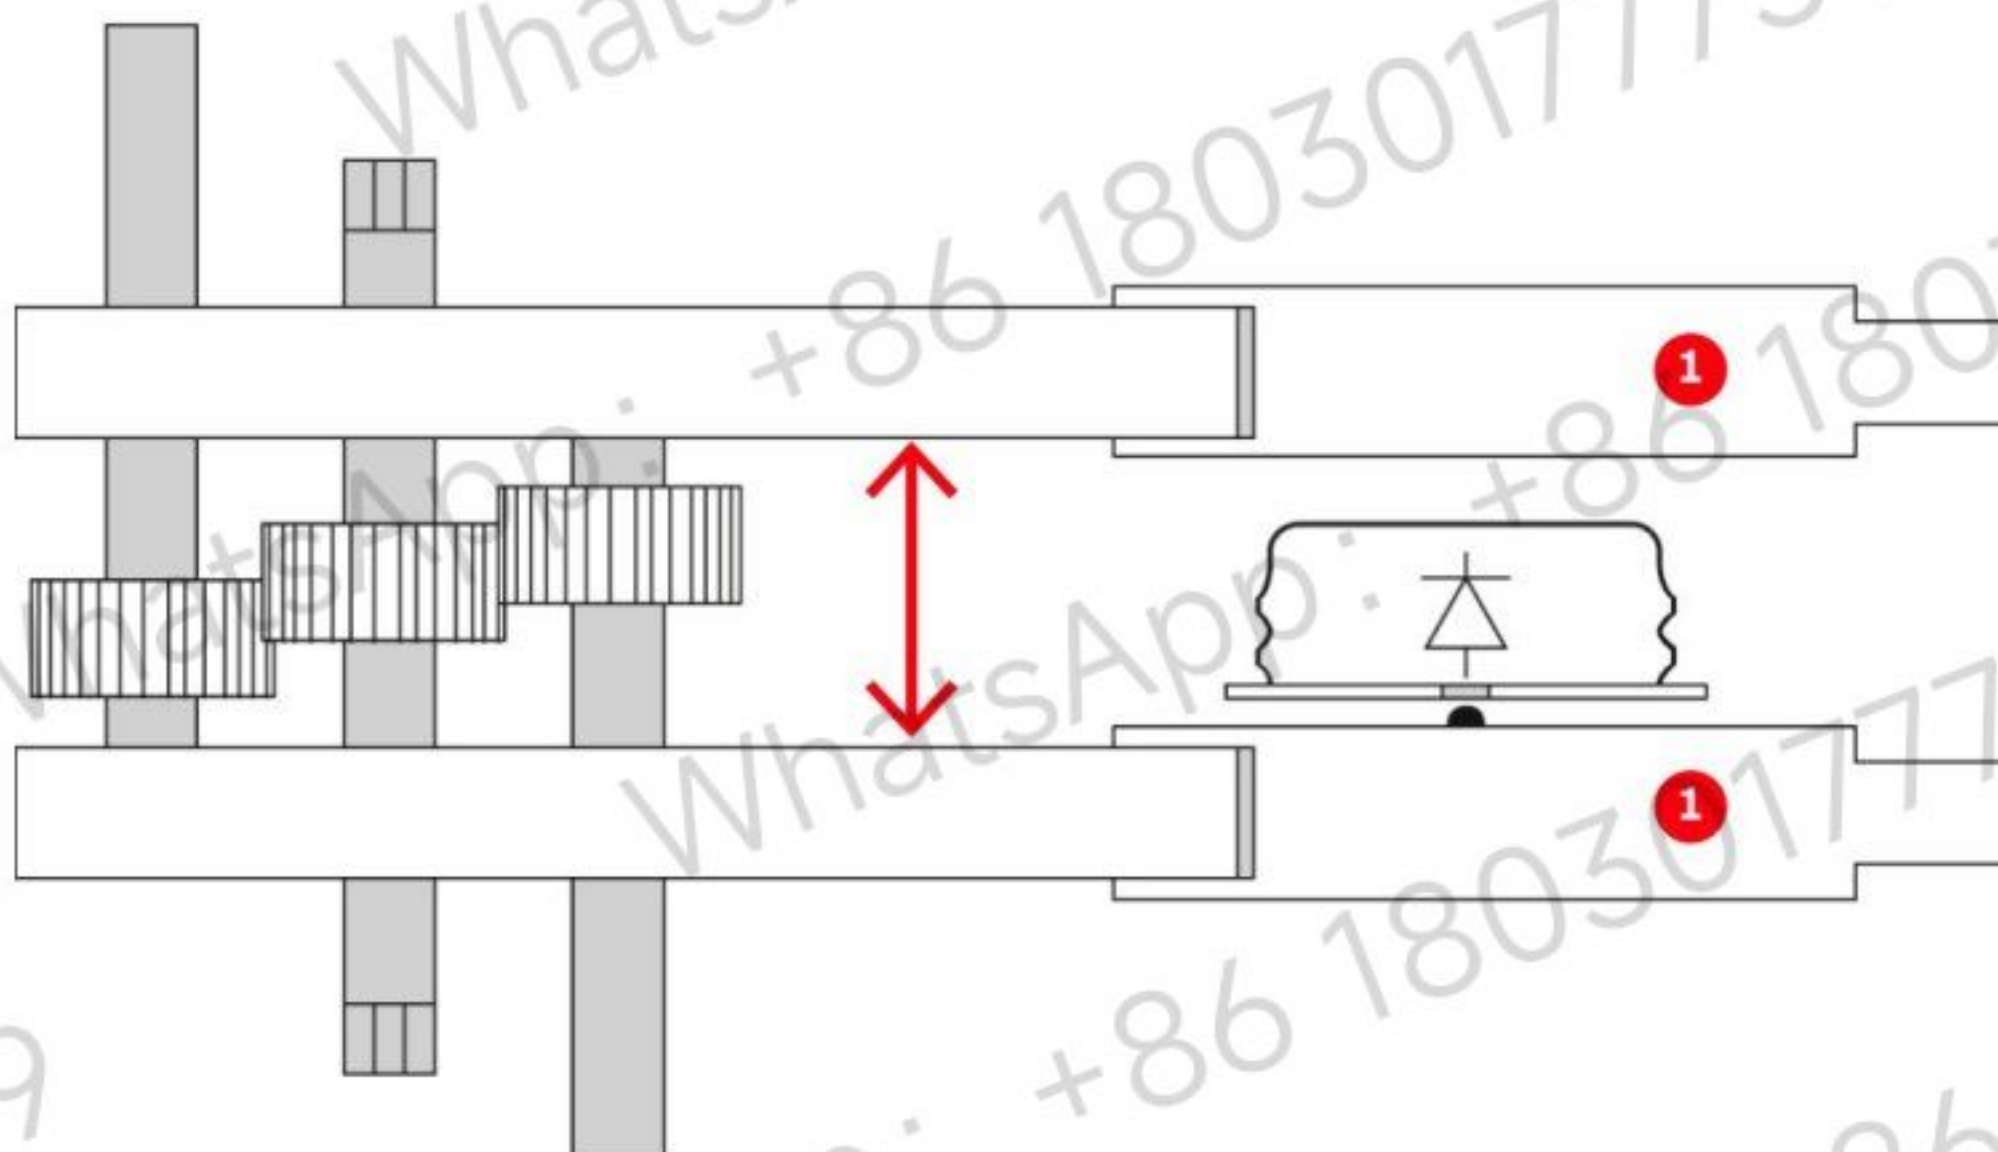

Figure 10-10 Spreading tool expansion
2. Expand the spreading tool by turning the middle rod with a 13 mm wrench to lift off the top heat sink so that the semiconductor can be removed (see Fig. 10-10).